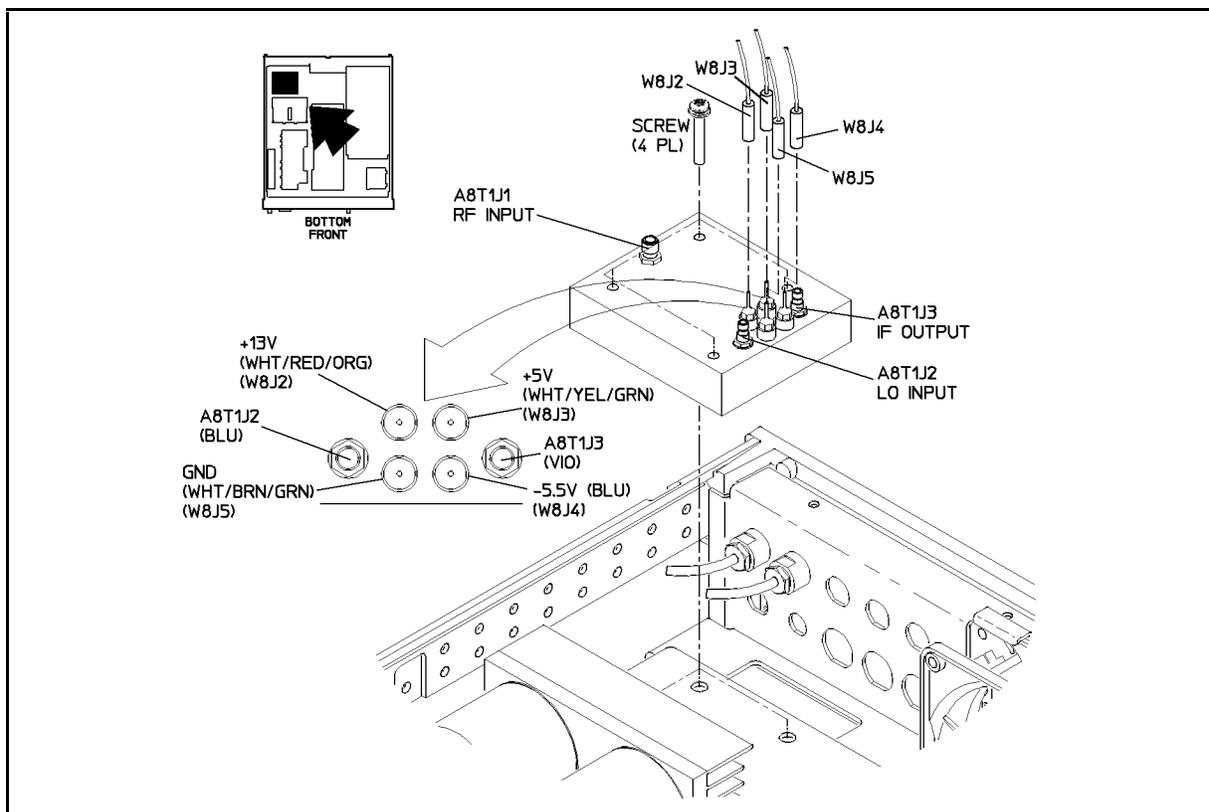

Figure 5-26. Sampler Removal
3. In the “Special Techniques” section of this chapter, refer to “Semi-Rigid Coaxial Cables” and Figure 5-26. Then, using a 5/16 in open end wrench, carefully remove the semi-rigid cable, W40, from the output module SAMPLER OUT connection and the Sampler RF INPUT connector.
4. Disconnect the four single wire lead contacts from the DC cable to the Sampler. See Figure 5-26:
5. Refer to “Flexible Coaxial Cables” and Figure 5-26. Then, using a 15/64 in end wrench, carefully remove the following cables from the SMC connectors:
6. Using a size 10 TORX[®] screwdriver, remove the four screws securing the Sampler to the microwave deck as in Figure 5-26.
Caution Some sampler microcircuit assemblies may have an incorrect wire hookup label attached to the bottom side. **Ignore all label hookup instructions.** Refer to Figure 5-26 for the correct wire configuration. Damage to the sampler and/or other circuits in the synthesizer will result if the wires are not configured properly.
1. Install the Sampler Microcircuit by loosely mounting it to the microwave deck with four mounting screws as shown in Figure 5-26. Do not tighten the mounting screws.